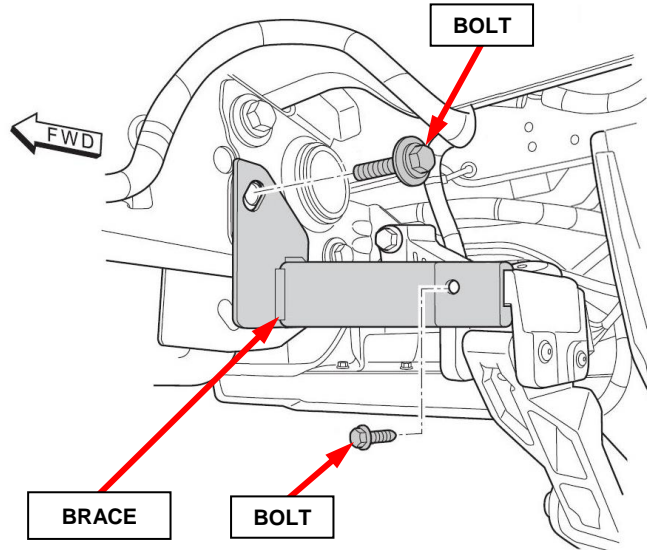

Figure 3 – New Bed Step Brace
5. Install the **NEW** bed step brace (Figure 3).
6. Loosely install the **NEW** M8 bolt included in the campaign kit then the M16 bolt saved from the removal step (Figure 3).